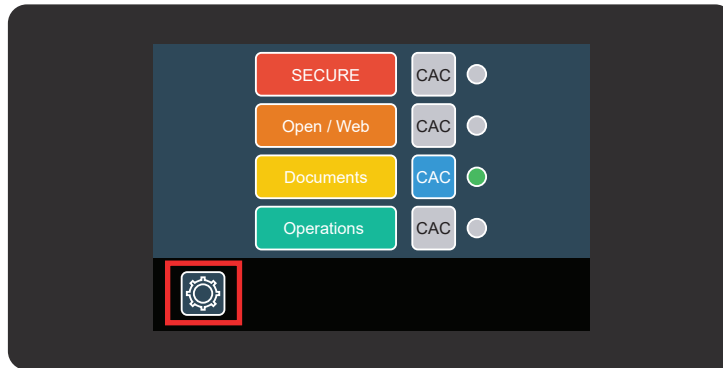

Figure 2. Settings icon
- Click the settings icon as shown in Figure 2.